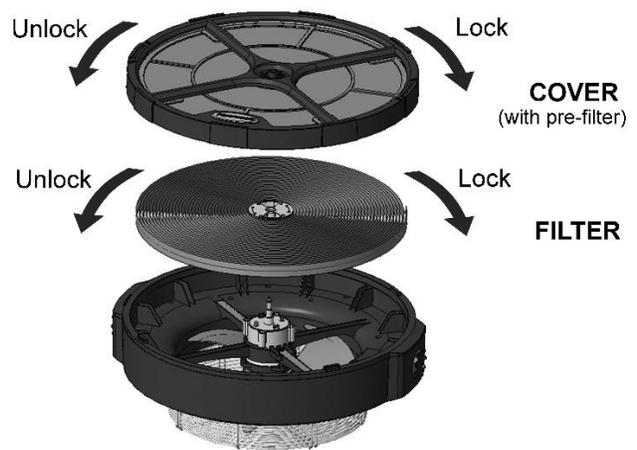

Figure 8-4: Filter replacement
3. Rotate cover counterclockwise and remove it, along with the prefilter. See Figure 8-4.